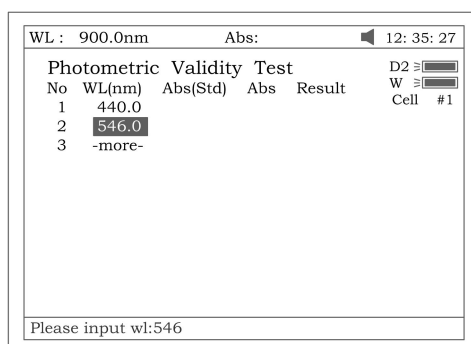

Fig 90
1. Press **【SET λ 】** to set the wavelength. Press **【ENTER】** to edit and input wavelength by pressing the numeric keypad (Fig 90). **【ESC/STOP】** to finish inputting and exit.